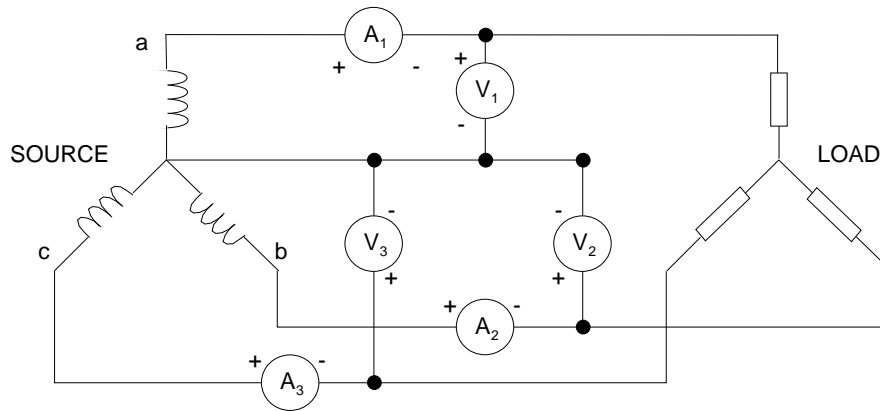

Figure 5. Power Measurements with Yokogawa Digital Meter for Wye-Connected Load.
- (b) Set the supply to 120 V line-to-neutral. Connect a $300\ \Omega$ and a 0.8 H inductor in parallel for each leg of a wye-connected three-phase load, as shown in Figure 5. Figure 5 shows true a, b, and c phases. Note that your load is now a three-wire, three-phase wye-connected load. This means that there is no connection between the neutral of the load and the neutral of the supply.
- (c) Analytically design a three-phase wye-connected reactive power compensating circuit (shunt capacitor banks) to achieve a source power factor of 0.938 leading for the circuit of Figure 5. Verify the adequacy of your design experimentally by connecting the capacitor banks and recording the values of active power, reactive power, and the power factor. Perform the necessary percent error calculations. What would be the capacitance of each phase, if you could connect the capacitors in delta configuration? Why can't you connect the capacitor banks in a delta configuration?